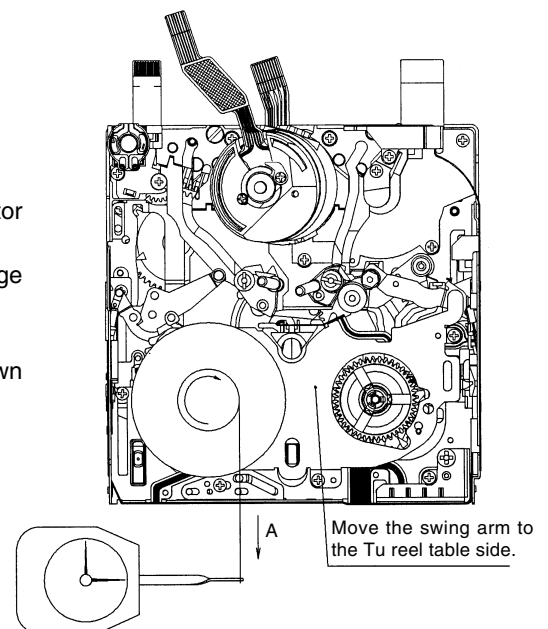

Fig.6 How to measure the S reel table unloaded torque
- (1) Remove the cassette controller assembly, apply 3 to 4V DC to the loading motor and select the L start mode. (See 9-1.)
- (2) Move the swing arm to the Tu reel table side. At this time, take care not to damage the gears etc. (See Fig.6.)
- (3) Set the reel hub for back tension measurement on the S reel table.
- (4) Using the dial tension gauge, pull the thread of the reel hub in the direction shown by Arrow A and check that the tension is within spec.